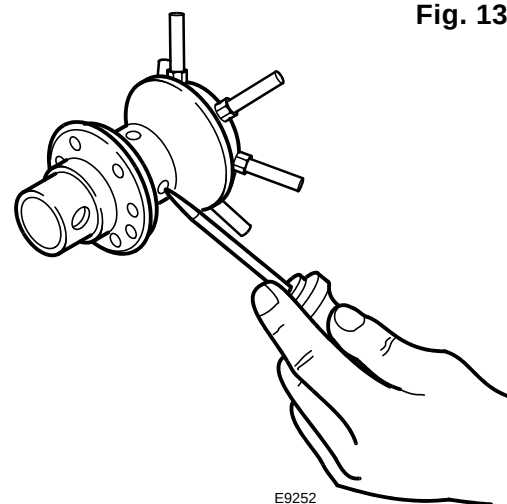

Fig. 13
- Check at regular intervals that the holes of the gas head are not obstructed. If they are, clean them with a suitable tool as shown in the figure 13.